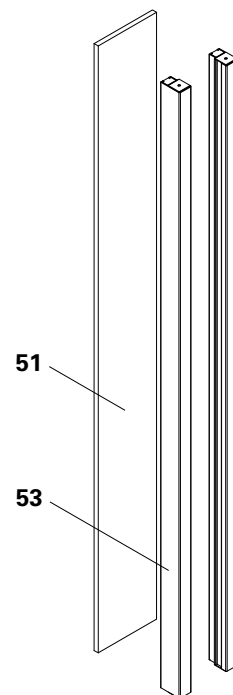

Fig. A11.03b
- Filler Profile (53) (2x)
- Plywood filler 21 mm (51)
- (Fig. A11.03b)